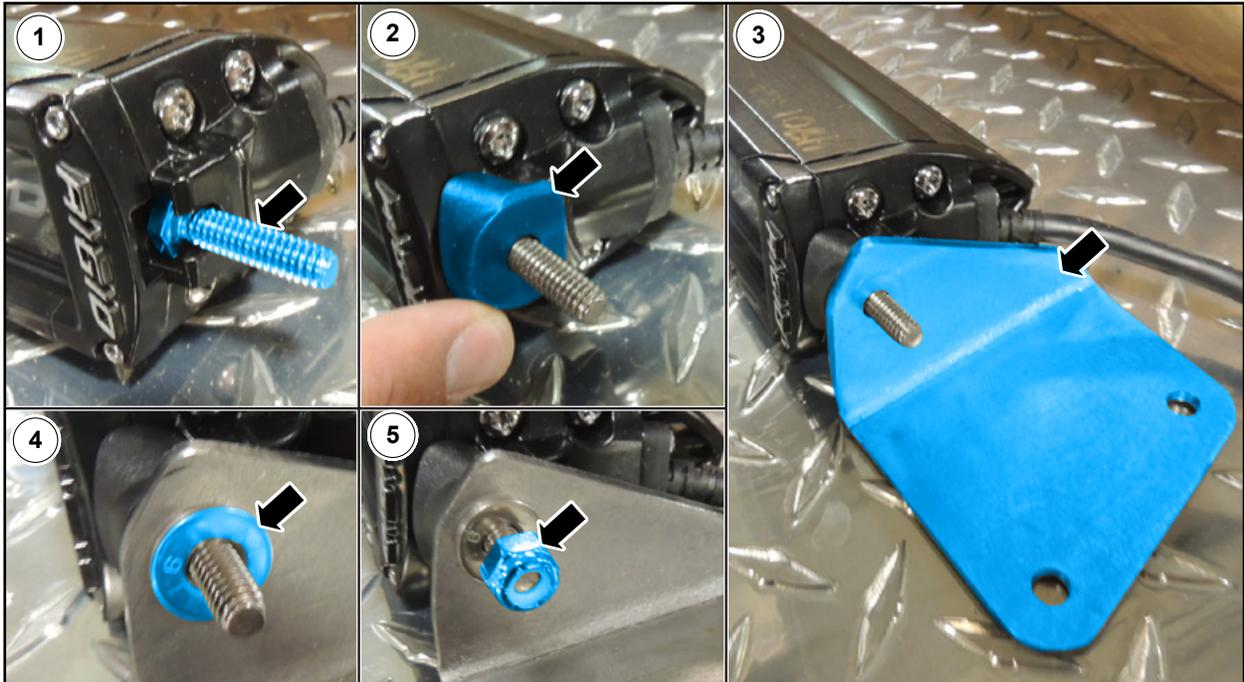

FIGURE 45
45. Attach the light bar mounting bracket. See Figure 45